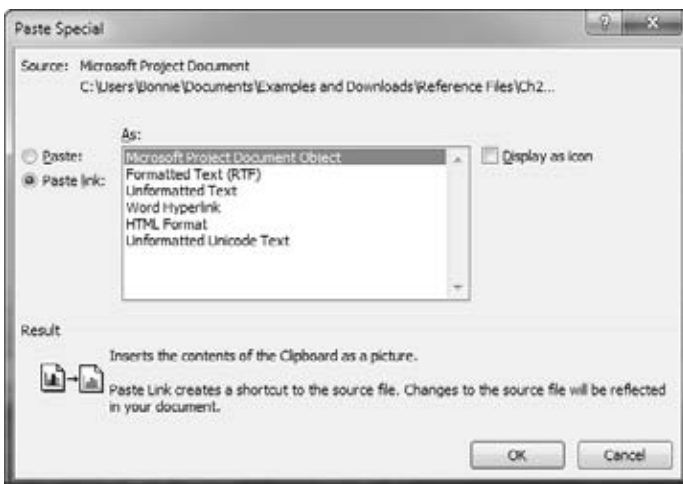

Figure 21-1:
6. **In the Paste Special dialog box, select the "Paste link" option, as illustrated in Figure 21-1.**